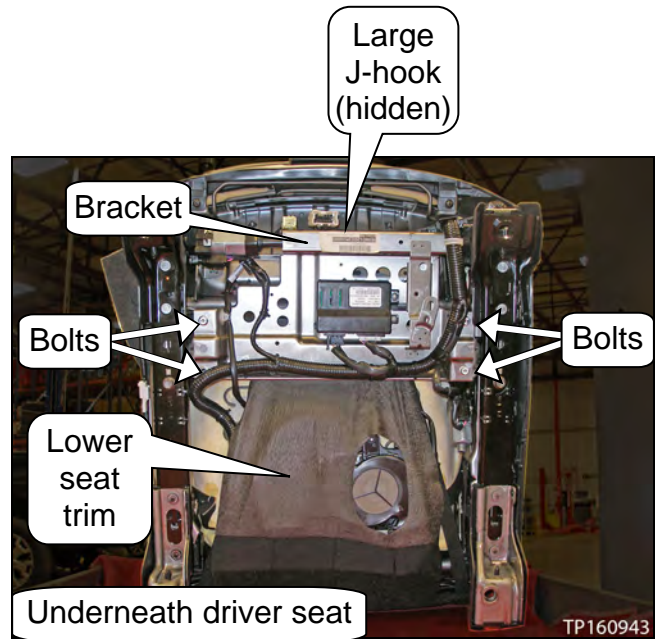

Figure 4
**NOTE:** For easier viewing, a driver climate controlled seat has been removed from the vehicle (see Figure 4). Climate controlled seats only need to be unbolted and tilted fore or aft and do not need to be removed from the vehicle to perform this service procedure.
1. Climate controlled driver seat: Remove the four (4) bolts. See Figure 4.
**NOTE:** Figure 4 shows a typical climate controlled driver seat. Your vehicle's seat configuration may differ slightly.